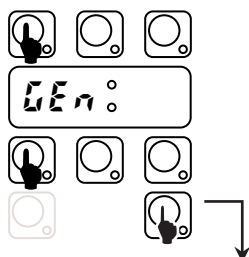

Fig. 17 Enter into User Mode (press for 5 sec)..
- Enter into the USER SETTING mode by pressing and hold down ON/OFF and CYCLE_1 keys for at least **five seconds** the display shows \mathcal{UEN} (Figure 17);